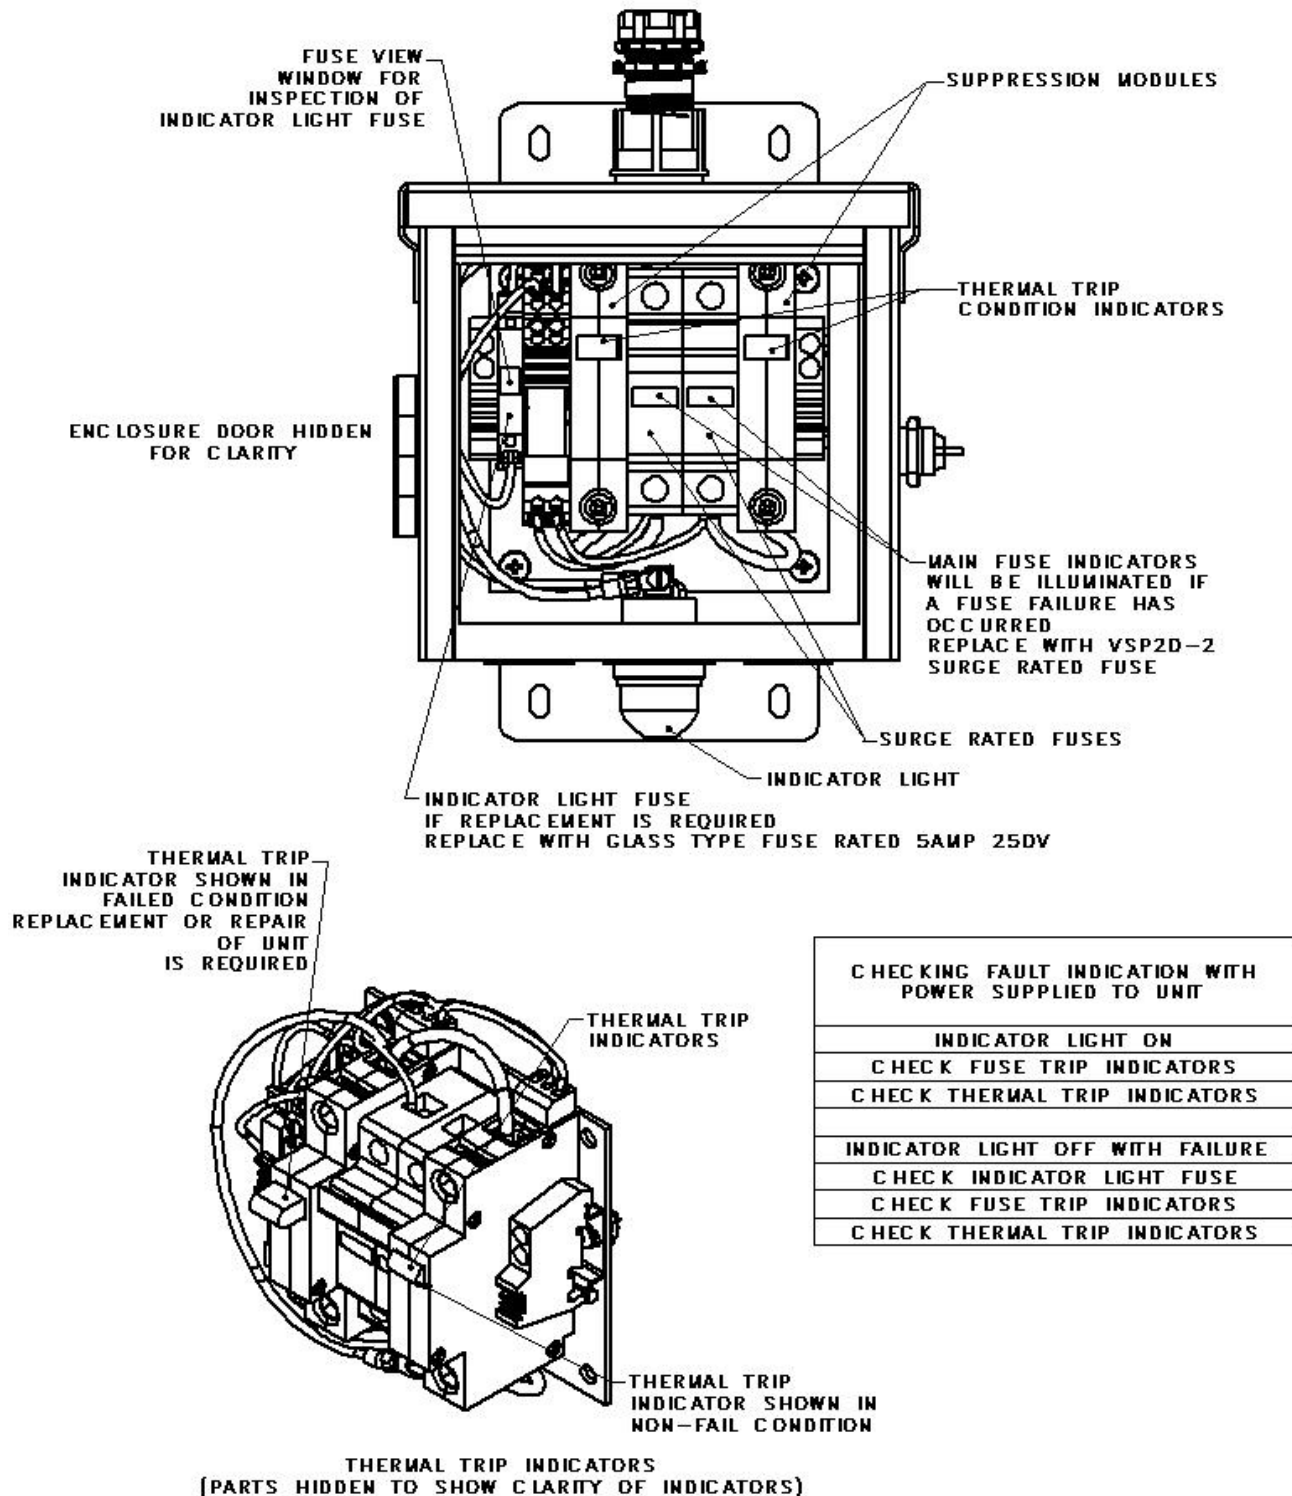

Fig 3. Fuse/Thermal location & Trip Indicators
- 3.1. The red indicator on the top surface of each module indicates suppressor status. This indicator will protrude from the top of the module .34" [8.6mm] when the module has failed (See Fig. 3). Should the module fail, contact Transtector at (1-800-882-9110) or a certified Transtector distributor immediately.